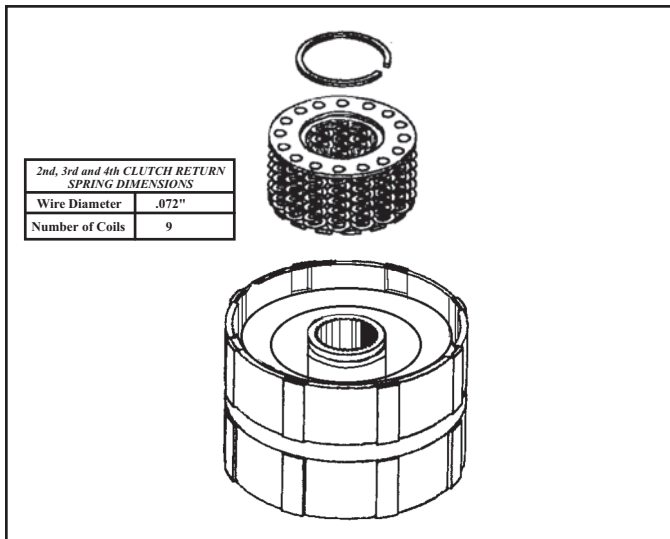

Figure 112
- Place the piston return spring assembly into the 2nd clutch drum. Using Saturn's spring compression tool SA9146T or equivalent, carefully compress the spring. With the spring compressed, use a suitable pair of snap ring pliers and install the retaining snap ring (See Figure 112).